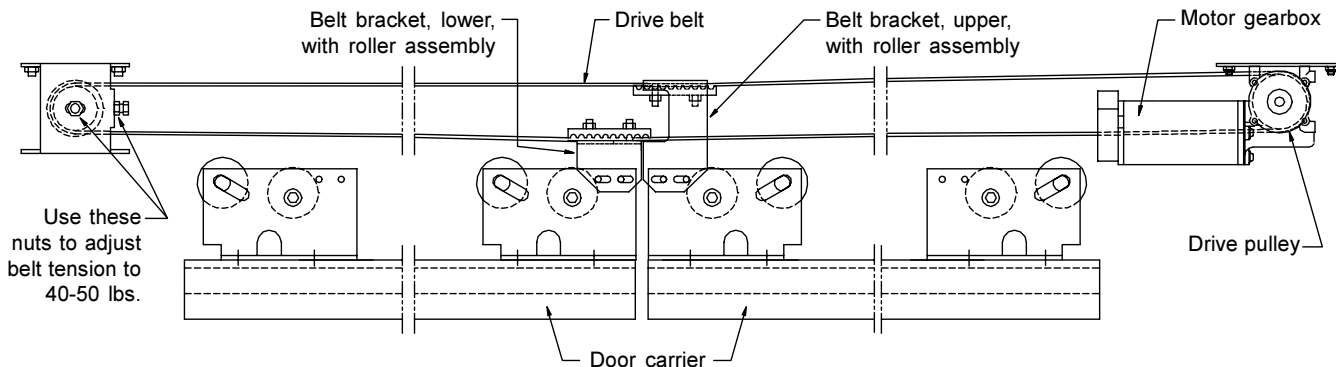

Figure 8. Belt Drive Assembly
1. Refer to **Figure 8** for a detailed breakdown of internal drive components.